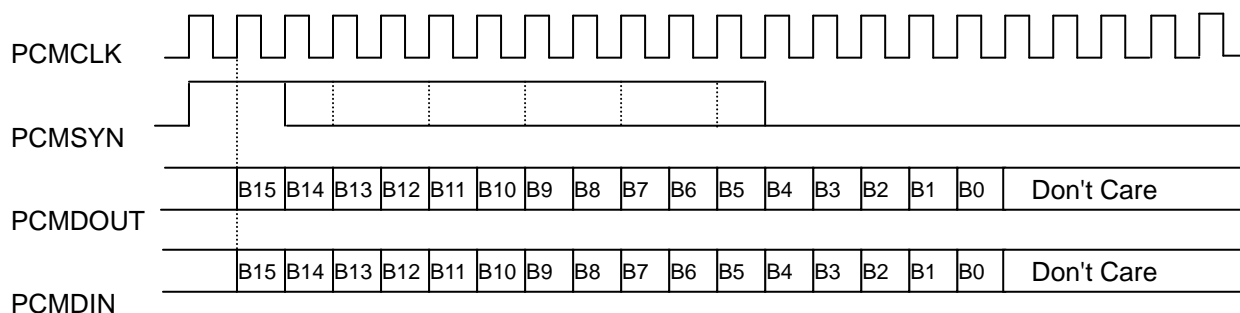

Figure 7-3 Long Frame SYN Timing (Shown with 16bit Sample)
**NOTE:** Figure 7-3 shows a PCM transfer with the MSB configured one shift clock after the PCMSYN.